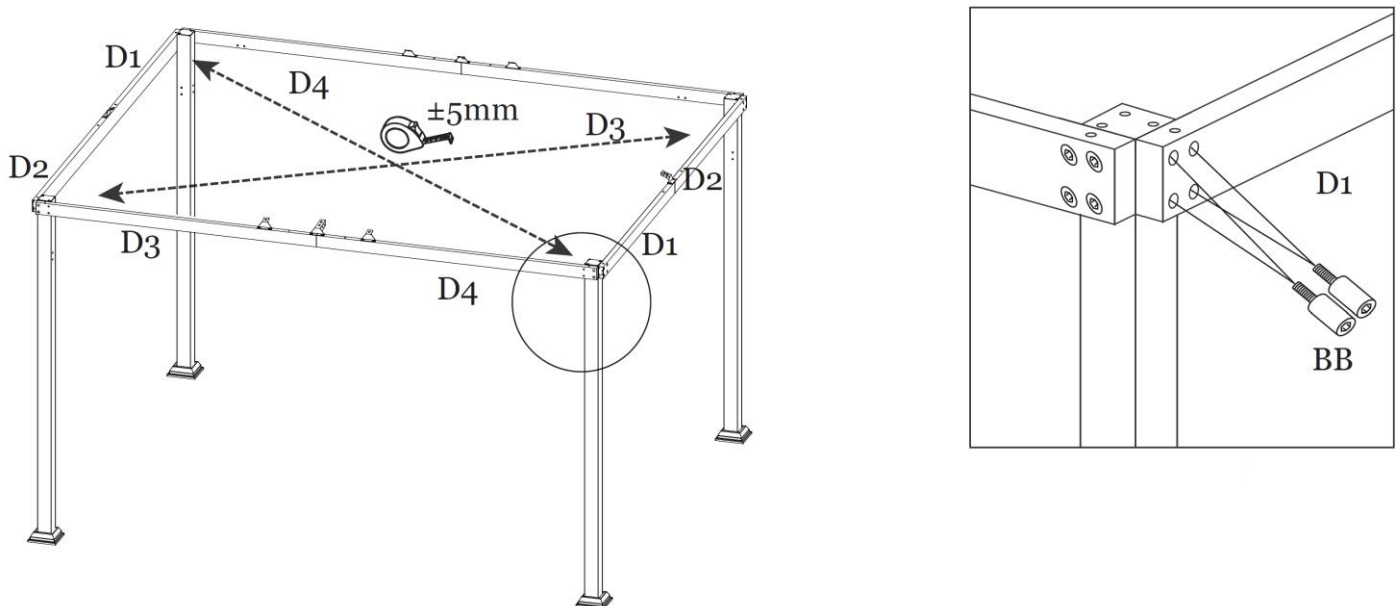

Figure 5
Step 5: Attach Short Lintels (D1 and D2) to the outside of the Corner Post (A) using Bolts (BB). See Figure 5. **Tighten all Bolts.** Repeat for opposite side Short Lintels (D1 and D2) and Corner Posts (A).